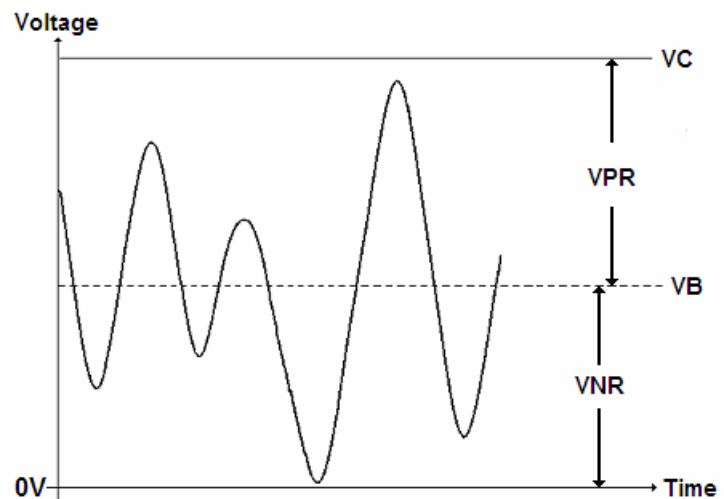

Figure 3 - Sensor Output Signal
The compliance voltage provided by the SCM5B48 module and the DC bias voltage from the sensor determine the available dynamic range of the sensor and the maximum input for the SCM5B48. The required compliance voltage (VC) for standard ICP[®]* sensors is between 18V and 30V while the sensor output DC bias voltage (VB) is between 8V and 13V. The value of VB will vary by sensor type and manufacturer. Refer to sensor datasheets to determine the value for the particular sensor used. Figure 3 shows a typical accelerometer output signal.